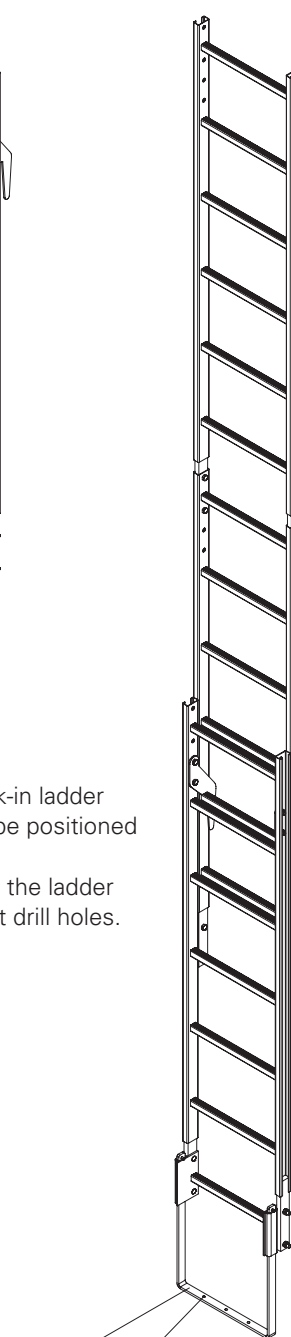

Fig. B3.06
1. Pull out the bracket (286.1) of the ladder base (286) as far as the platform decking. Secure the bracket to the platform decking using 3 Torx 6 x 40 screws (200). (Fig. B3.06)